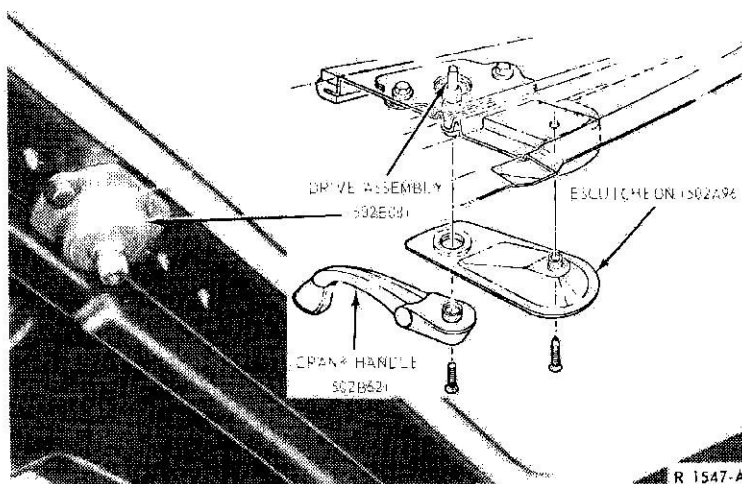

FIG. 6 Crank Handle and Drive Assembly
1. Remove the crank handle from the drive assembly and the escutcheon from the housing, as shown in Fig. 6.